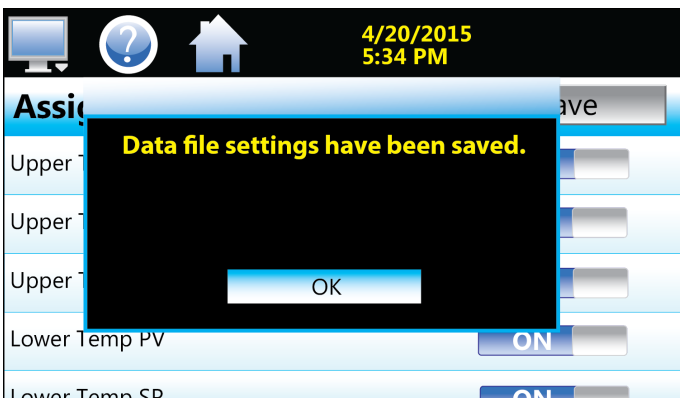

Fig. 64: DATA Files Saved
5. As soon as the files are saved, the DATA FILES SAVED screen pops up (Fig. 64).